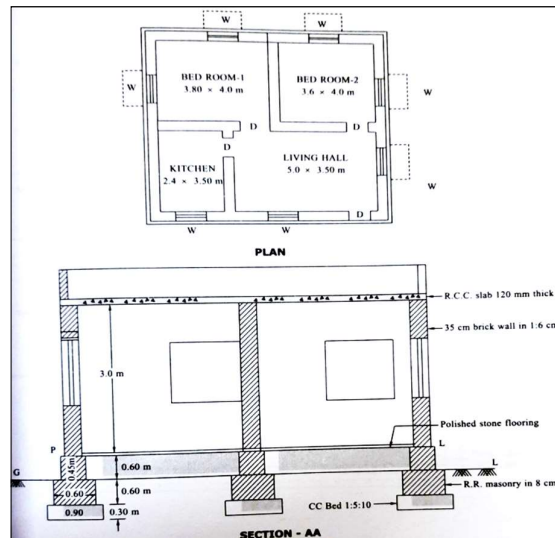

Fig.1 (CO2)
11. A) Prepare the detailed estimate for the following items of works from the fig.1 (CO2)
12. Prepare the detailed estimate for the following items of works from the fig.1 (CO2)